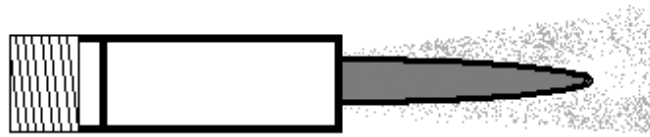

Figure 1
- ▶ When it comes to media & air mixtures, more is not necessarily better. Optimum blasting efficiency takes place when a lean media & air mixture is used. To correctly set the metering valve, begin with the valve fully closed and slowly increase the amount of media entering the airstream. As you increase the media flow, watch for a "blue flame" (*Figure 1*) at the exit of the nozzle. Faster cutting, reduced media consumption and lower clean-up costs, are benefits of the "blue flame".
▶ When it comes to media & air mixtures, more is not necessarily better. Optimum blasting efficiency takes place when a lean media & air mixture is used. To correctly set the metering valve, begin with the valve fully closed and slowly increase the amount of media entering the airstream. As you increase the media flow, watch for a "blue flame" (Figure 1) at the exit of the nozzle. Faster cutting, reduced media consumption and lower clean up costs, are benefits of the "blue flame".